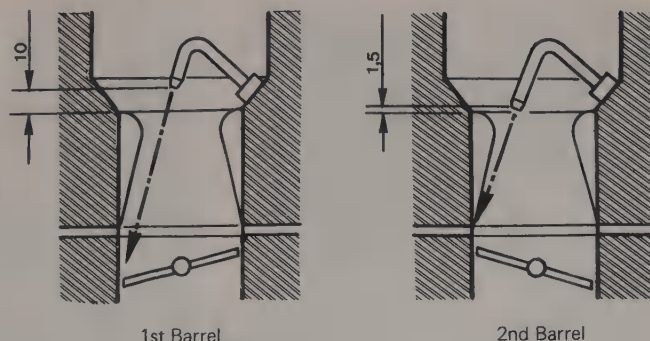

Fig. 3.14 Accelerator pump jet adjustment in the Zenith 35-40 INAT carburettor - dimensions in mm (Sec 11)
- 6 Adjust the accelerator pump jets with reference to Fig. 3.14.